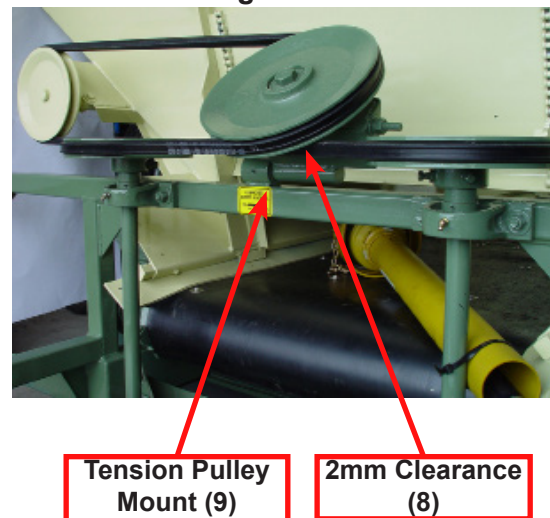
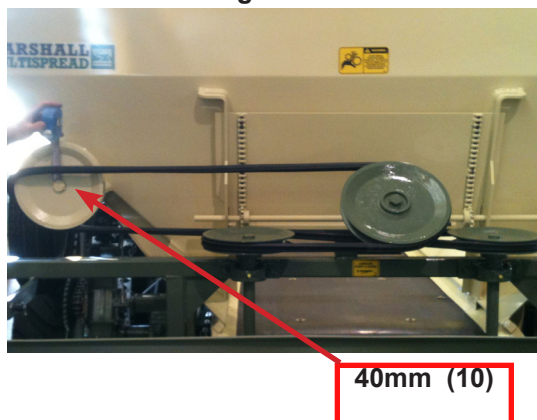

Fig 10
Fig 11
For the correct V-Belt tension see figure (10), once tension has been taken up there should be approximately 40mm from the top of the V-Belt to the top of the side shaft as shown. (Fig 10). To adjust tension loosen off the tension pulley shaft nut (Fig 6) then tension the adjuster (Fig 11).